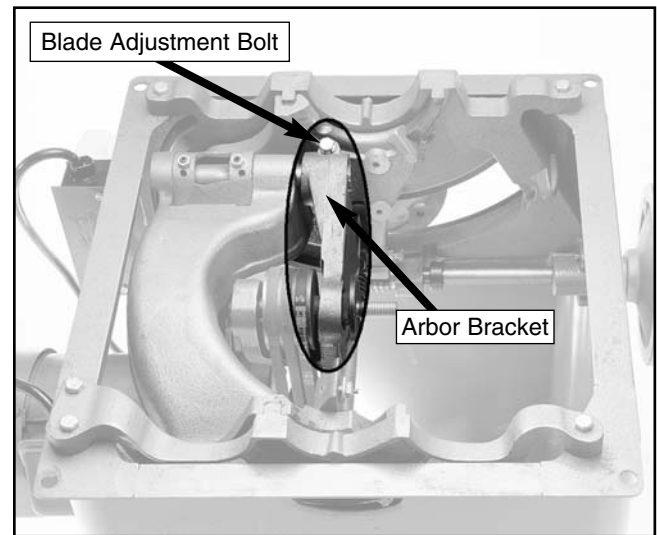

Figure 22. Arbor bracket adjustment locations.
9. Loosen the adjustment bolt shown in **Figure 22**, and slowly slide the arbor bracket towards the end of the shaft. *Only move the arbor bracket a distance equal to the amount of misalignment between the blade and the splitter, or a little more. You can always adjust the splitter back to the left with washers.*